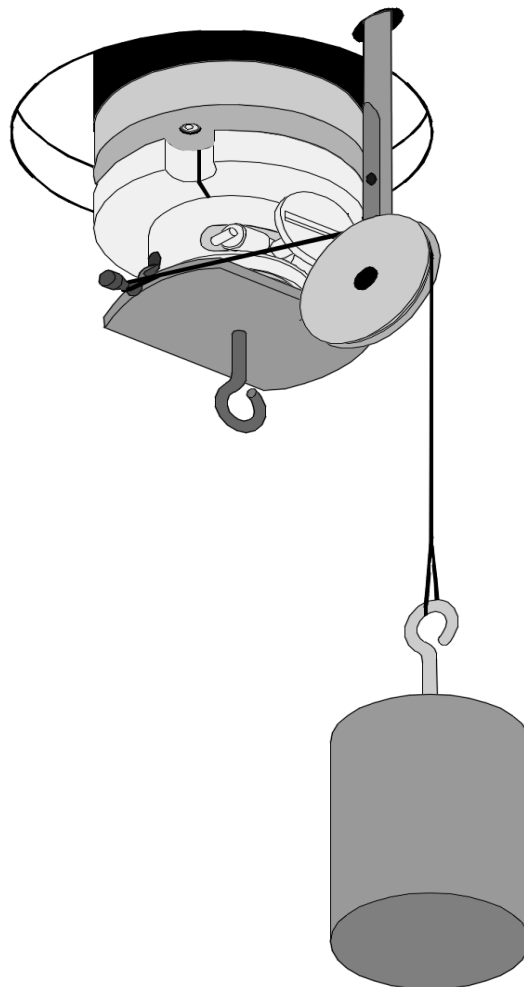

Figure 5-5. Applying Torque Using the Calibration Weight
**NOTE:** Do not hang any weights until after at least one (1) zero reading has been taken.
11. Apply a calibrated torque (Figure 5-5), depending on your transducer, as follows: